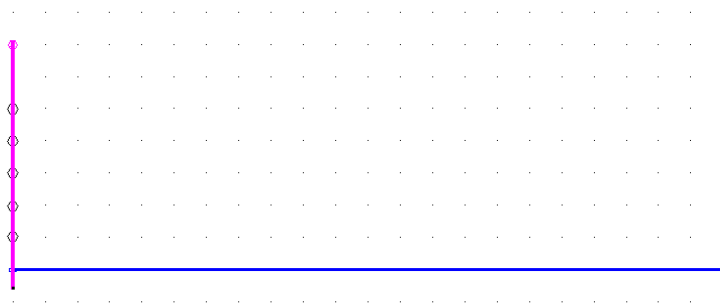

Figure 4-82
19. Connect the pipe to the water supply and to all the hydrants by left clicking the mouse each time the pipe passes over a hydrant, and draw a straight line through all the hydrants ending with the active hydrant. Connect about 10ft (3m) of mainline pipe past the last hydrant. This will allow IRRICAD to tee the mainline into the last hydrant rather than elbow into it. Select *Right-click/Restart*. See Figure 4-82.